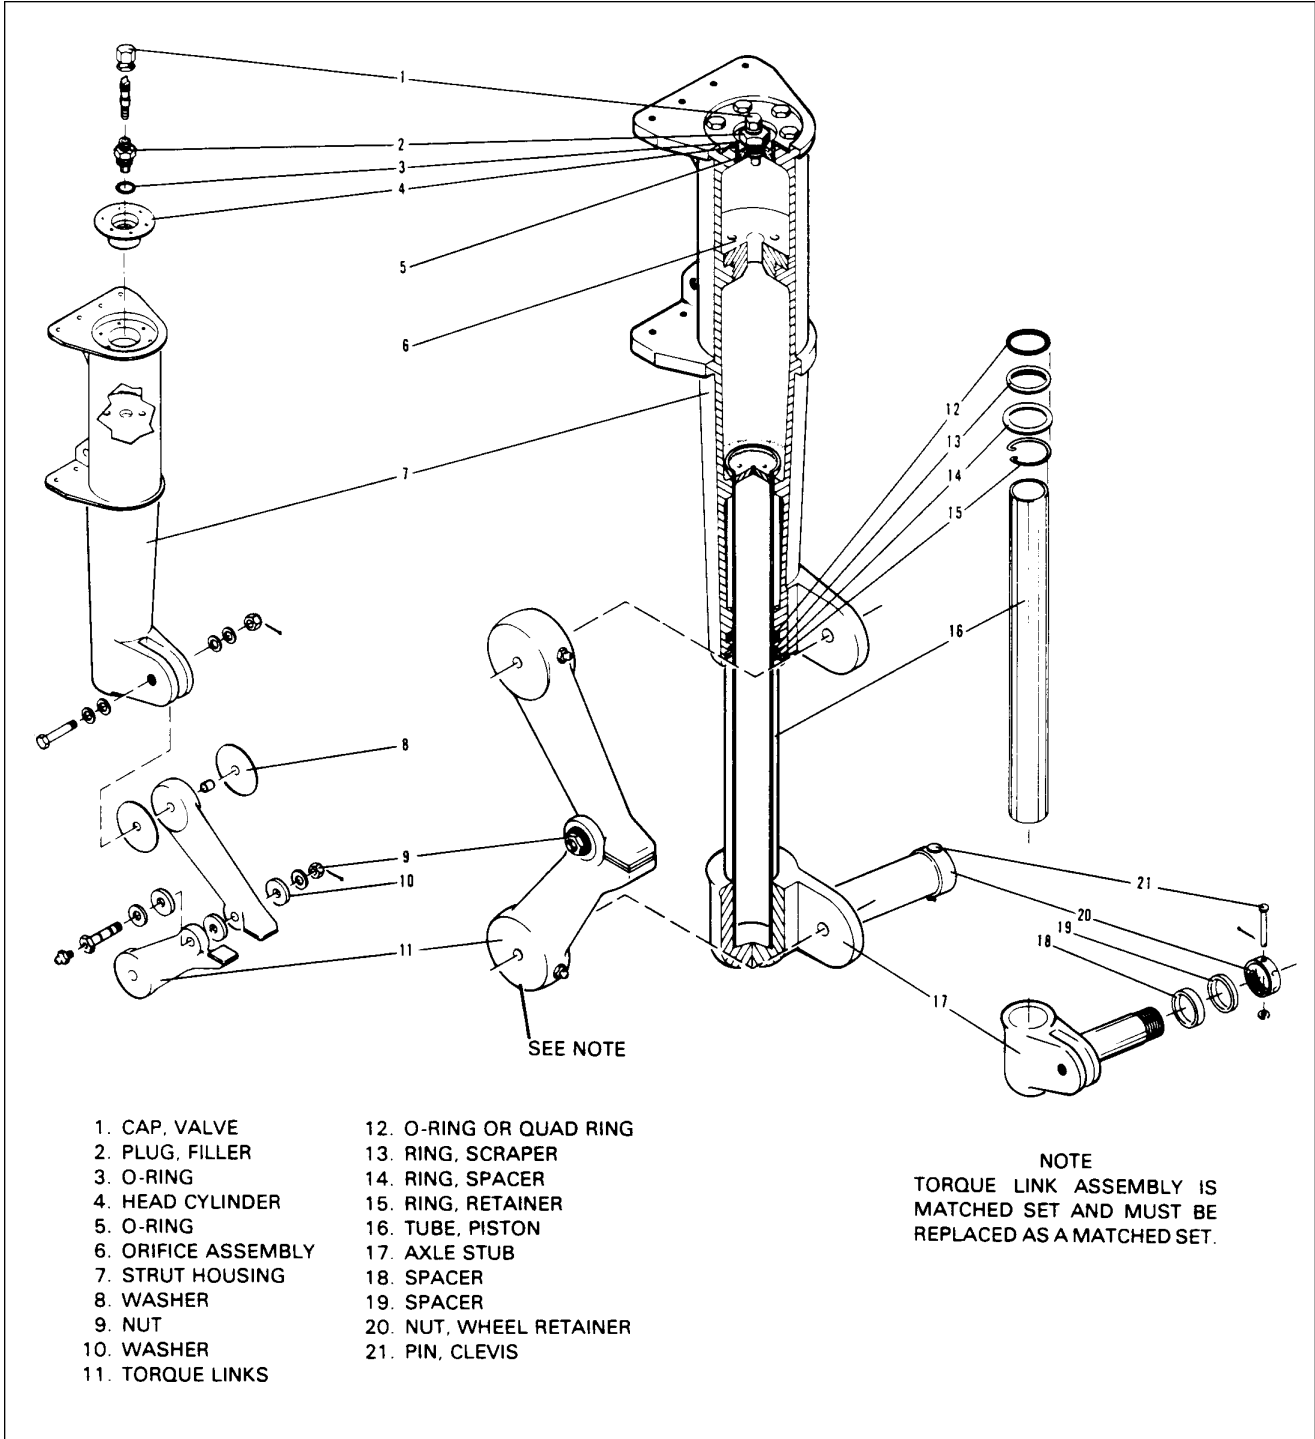

Figure 32-1. Main Gear Oleo Strut Assembly
A. DISASSEMBLY OF MAIN GEAR OLEO (Refer to Figure 32-1.)
C. ASSEMBLY OF MAIN GEAR OLEO (Refer to Figure 32-1.)